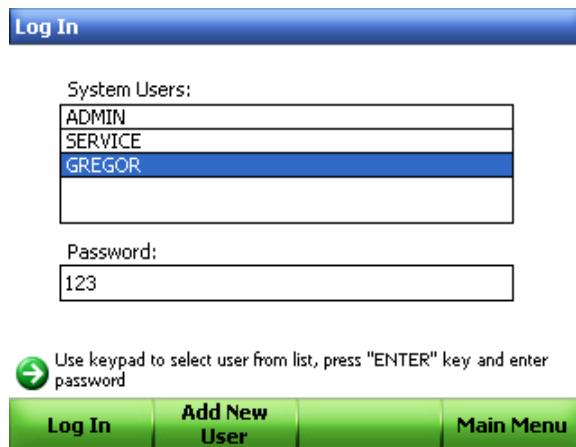

Figure 107. Enter the password and click Log In.
2. Enter the password, and then press **F1** or click **Log In** (Figure 107).